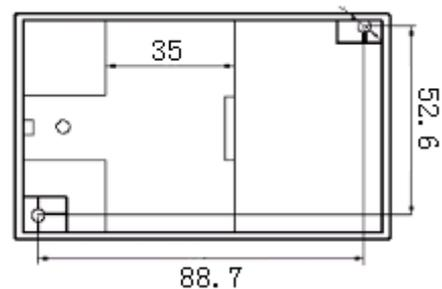

Figure 3, SK outline installation dimensions
- ① Fix the transducer on the side of the card slot and hook on the mounting rail;
- ② Pull the spring pin down;
- ③ Clip the transducer mount on the mounting rail;
④ Release the spring pin and clip the transmitter on the mounting rail.
① 3mm diameter hole in the fixed plate according to the screw hole position shown in Fig. 3;
② Use the screw Φ3 to insert into hole and secure it.